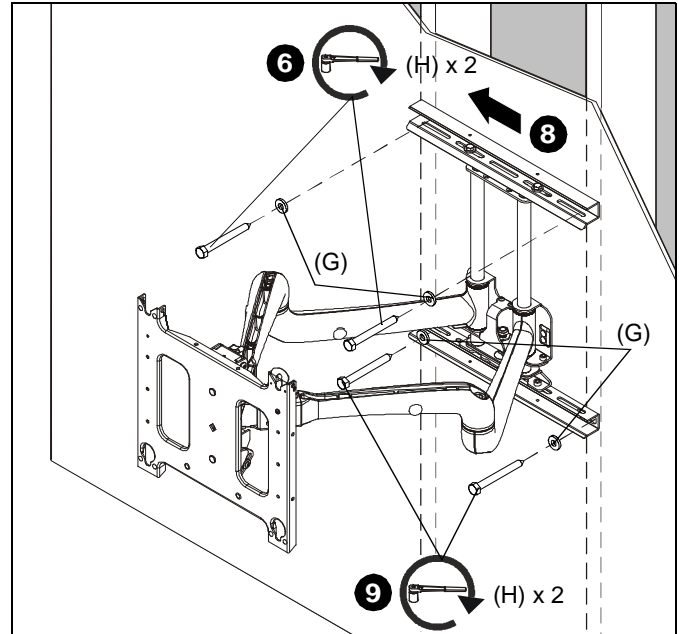

Figure 2
6. Install two 5/16" x 3" lag bolts (H) and two 0.135" thick washers (G), through mounting holes in upper wall channel and into pilot holes. DO NOT tighten at this time. (See Figure 2)
8. Adjust mount lateral position left until lag bolts are seated in mounting slots in upper wall channel. (See Figure 2)
9. Install two 5/16" x 3" lag bolts (H) and two 0.135" thick washers (G), through mounting holes in lower wall channel and into pilot holes. (See Figure 2)